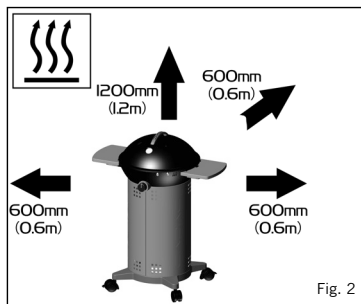

Fig. 2
- Ensure the appliance is used away from flammable materials. Minimum safe distances are: Above the appliance 1.2m. At the rear and sides 600mm. (See Fig. 2)